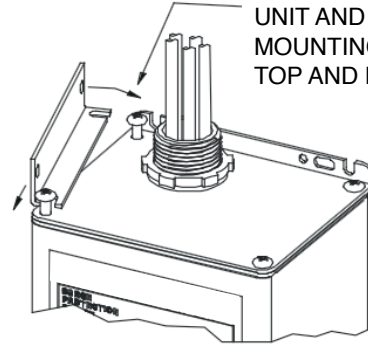

FIGURE 1
2. Loosen side screws in both PQ end plates as shown in Figure 1. Screws should be loosened on the side to be fixed to load center only. Install PQ Side Mounting Brackets and retighten PQ screws. There is no need to remove the screws